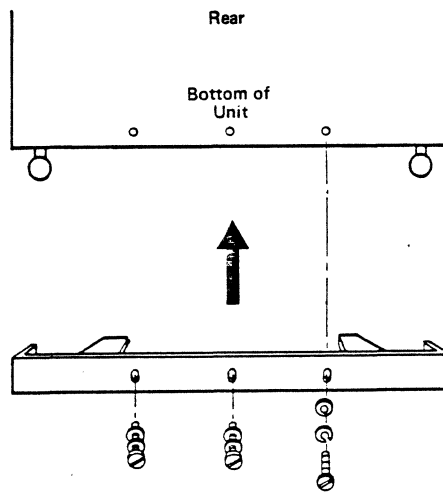

Figure 6-9. Installing the Rear Ground Plate
17. Using three screws (PN 332620), three lock washers (PN 9092), and three flat washers (PN 45690), secure the plate while pressing the plate firmly against the floor (Figure 6-9). Tighten the screws.